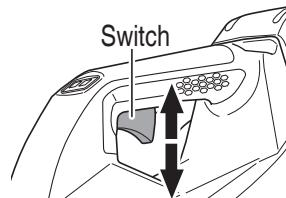

Fig. 11
- Switch operation (**Fig. 11**).